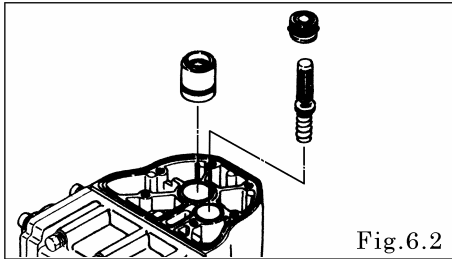

Fig. 6.2
- Draw out the pilot valve and valve seat. [Fig. 6.2]
- Draw out the throat bearing. [Fig. 6.2]